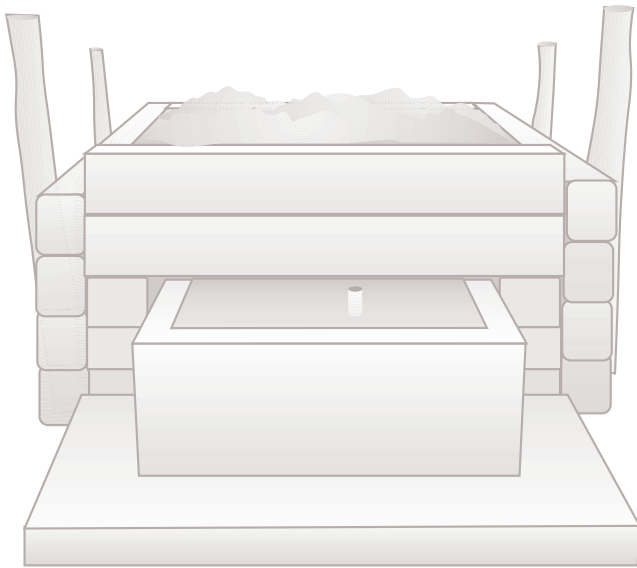

Figure 5. A railroad tie cribbing makes it possible to use earth fill for frost protection when locating the tank on flat terrain.
16. Place fill around and over the back of the tank. Fill should be at least 2 feet deep to provide adequate frost protection (see Figure 5). Seed the fill as soon as it is in place and fence livestock away from it.